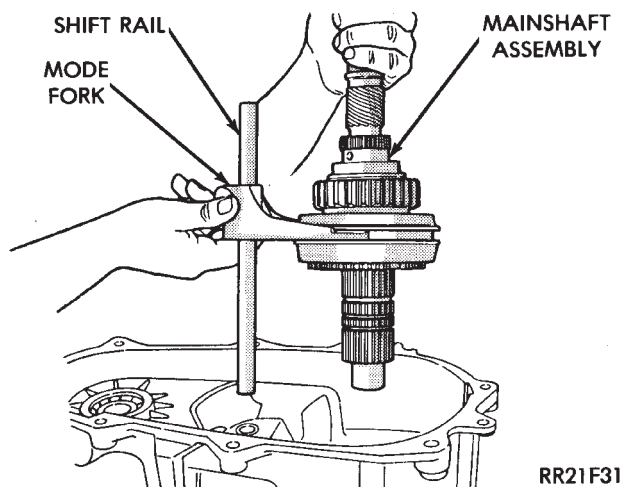

Fig. 52 Installing Mainshaft And Mode Fork Assembly
(33) Install sleeve on synchro hub. Be sure sleeve is installed with beveled spline ends facing stop ring.
(34) Install new pads on mode fork and install shift rail in fork.
(35) Engage mode fork in synchro sleeve (Fig. 52).
(36) Install mode fork-mainshaft assembly in case (Fig. 52). Be sure the mode fork rail is seated in both range fork bushings.